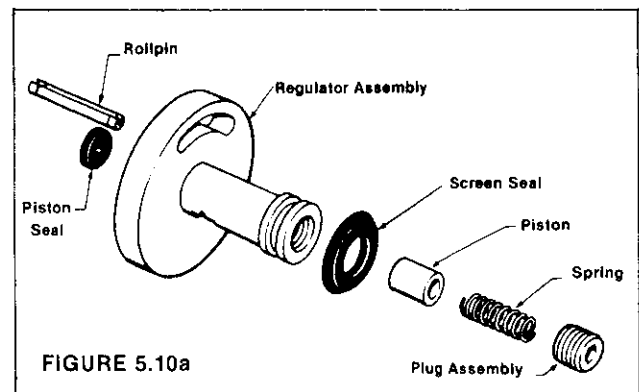

FIGURE 5.10a
STEP 10 Assemble the transfer pump regulator components (Figure 5.10a). Install the inlet filter screen seal on the regulator. Using tool 13301, place the regulating piston seal in the groove of the regulator. Do not roll the seal over when assembling.